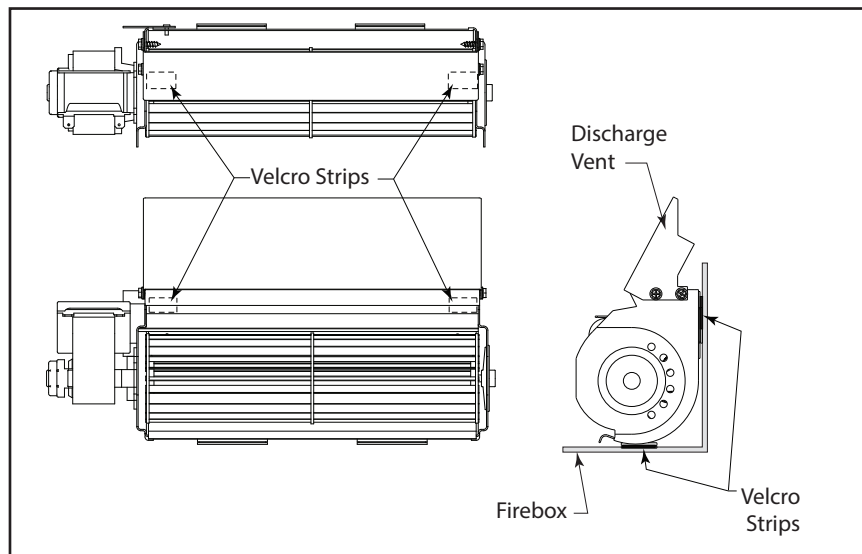

Figure 5
3. Remove the tape from the back of the Velcro and slide the blower into position on the inside back firebox wall. The blower should be centered with the rear blower discharge vent facing up and flat against the firebox back wall and floor. Figure 5